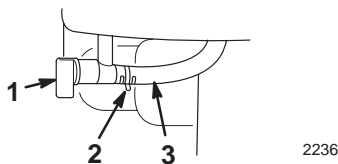

Figure 15
- **Fuel Shutoff Valve** (Fig. 15)—Close the valve by rotating it clockwise. Open the valve by rotating it counterclockwise. Close the valve when you do not use the snowthrower.
4. Open the fuel shutoff valve below the fuel tank (Fig. 15).
6. Close the fuel shutoff valve (Fig. 15).